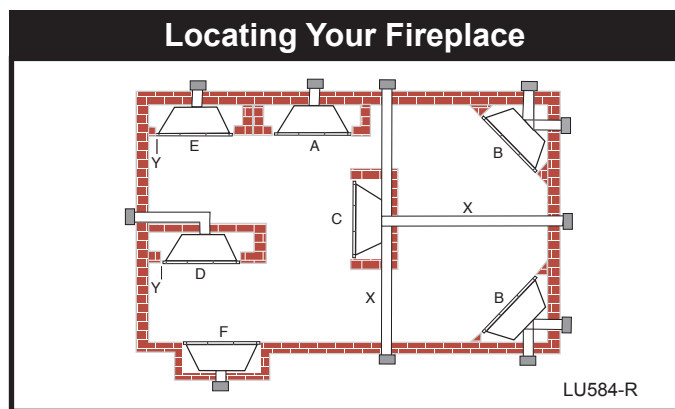

Fig. 2 Locate gas fireplace.
NOTE: (Fig. 2)
** Island (C) and Room Divider (D) installation is possible as long as the horizontal portion of the vent system (X) does not exceed 20' (610cm). See details in Venting Section.
* When you install your fireplace in (D) Room divider or (E) Flat on wall corner positions (Y), a minimum of 6" (153mm) clearance must be maintained from the perpendicular wall and the front side edge of the fireplace. Refer to (Y) in Figure 2.